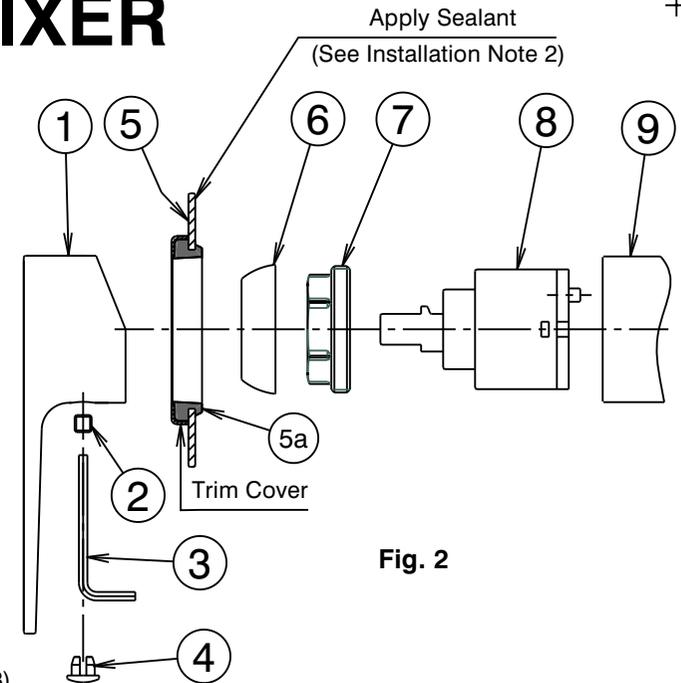

Fig. 2
- * Mixer body (9) must be installed square to wall/tile face, to ensure cover plate (5) sits flush.
- 2) **Trim kit:** Determine the orientation of cover plate (5) by ensuring the **Caroma** marking on the plate is positioned horizontally at the bottom. Apply a suitable clear sealant to the back edge of the cover plate (5), to prevent water from entering the wall cavity, leaving an unsealed section at the bottom for drainage. (See Fig. 2).
Replacing Cartridge (Fig. 2)